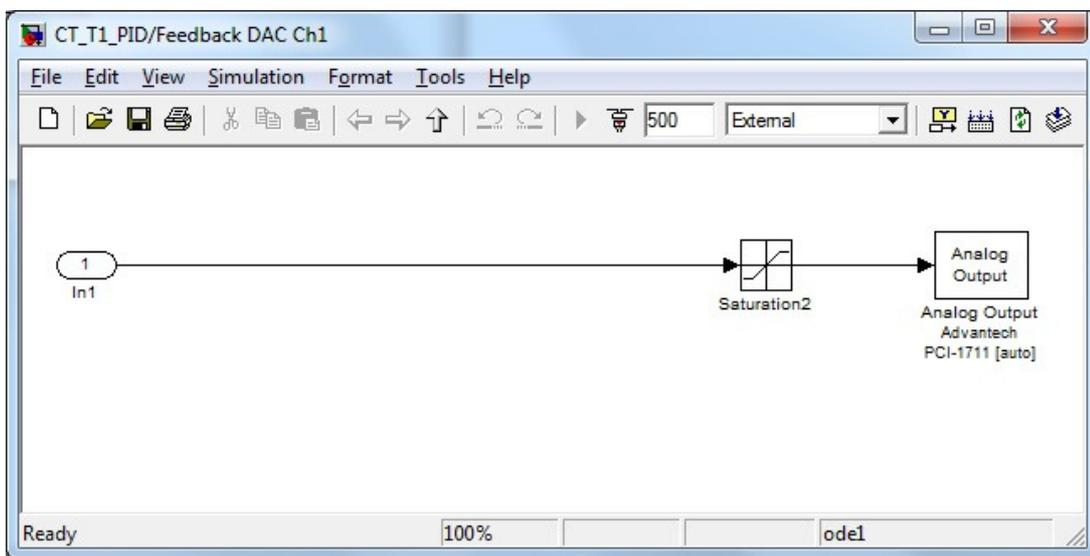
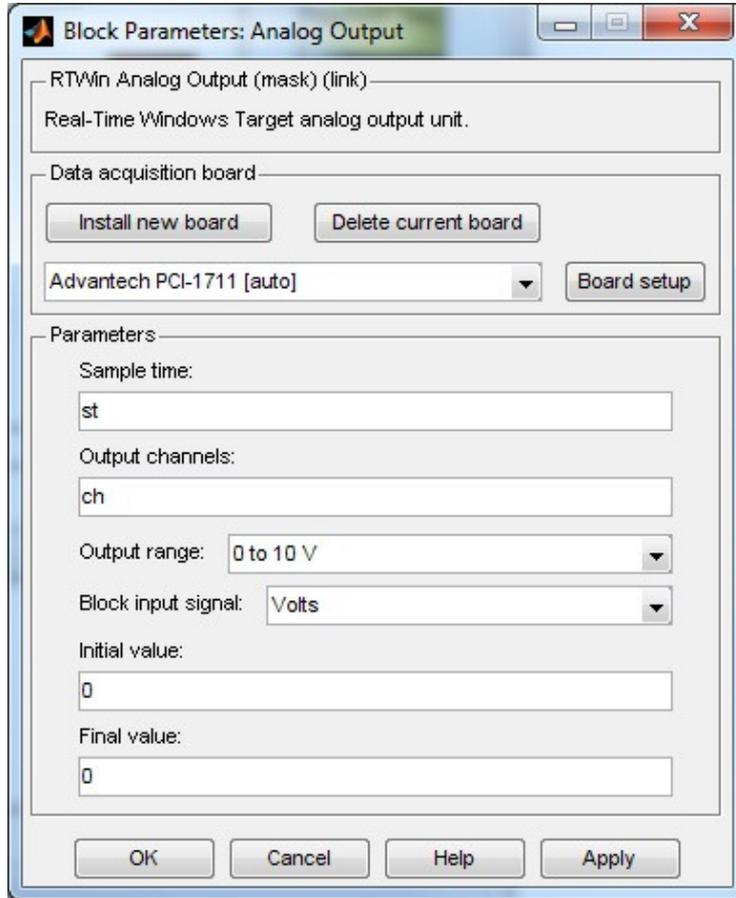

Figure 43 Feedback DAC Block –under mask
Figure 44 Feedback DAC Block – board setup
- Choose “*Look under Mask*” to view all of the subsystems (Figure 43). Before any experiments are run the PCI-1711 card has to be registered and set up. Double click on the Analog Output block and register the PCI-1711 card in Matlab environment (Figure 44).